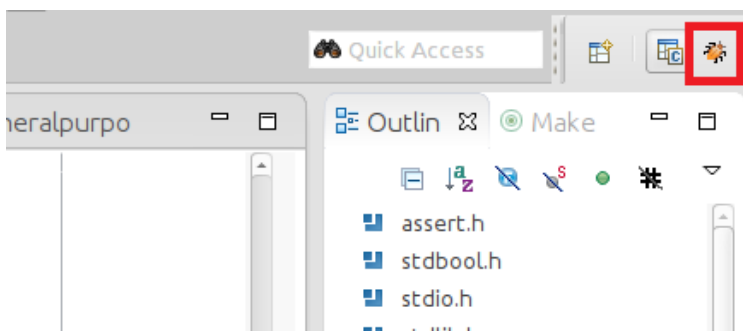

Figure 12-12. Switching to the DS-5 Debug Perspective
20. Switch to the *DS-5 Debug* perspective, as shown in Figure 12-12.